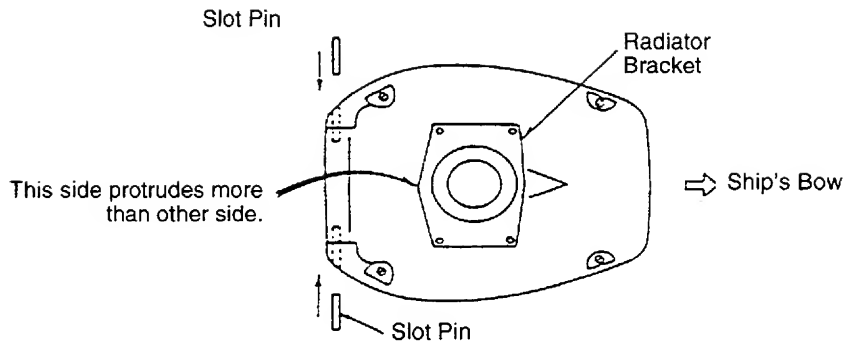
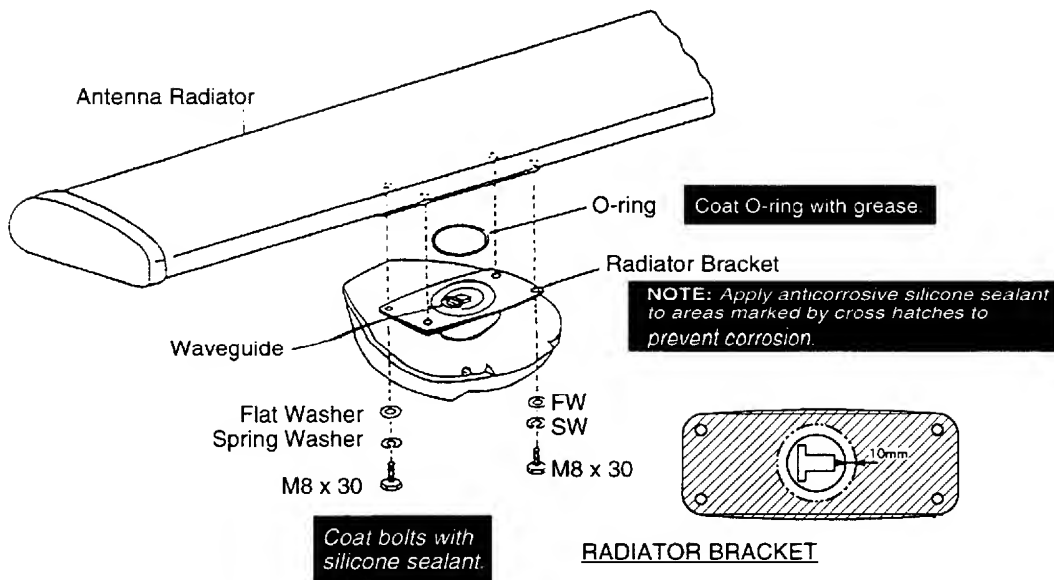

Figure 5-5 Inserting of slot pins
Figure 5-6 Fixing the radiator to the scanner housing
- 3) Now is the time to fix the radiator to the radiator bracket. Remove the red rubber cap on the radiator bracket and orient the radiator bracket as shown in Figure 5-5. Referring to Figure 5-6, apply anticorrosive silicone sealant to the radiator bracket as shown below and apply grease to the O-ring and set it to the center of the radiator bracket. Coat the radiator fixing bolts with silicone sealant. Fix the radiator to the radiator bracket with the FURUNO logo on the radiator facing ship's bow.